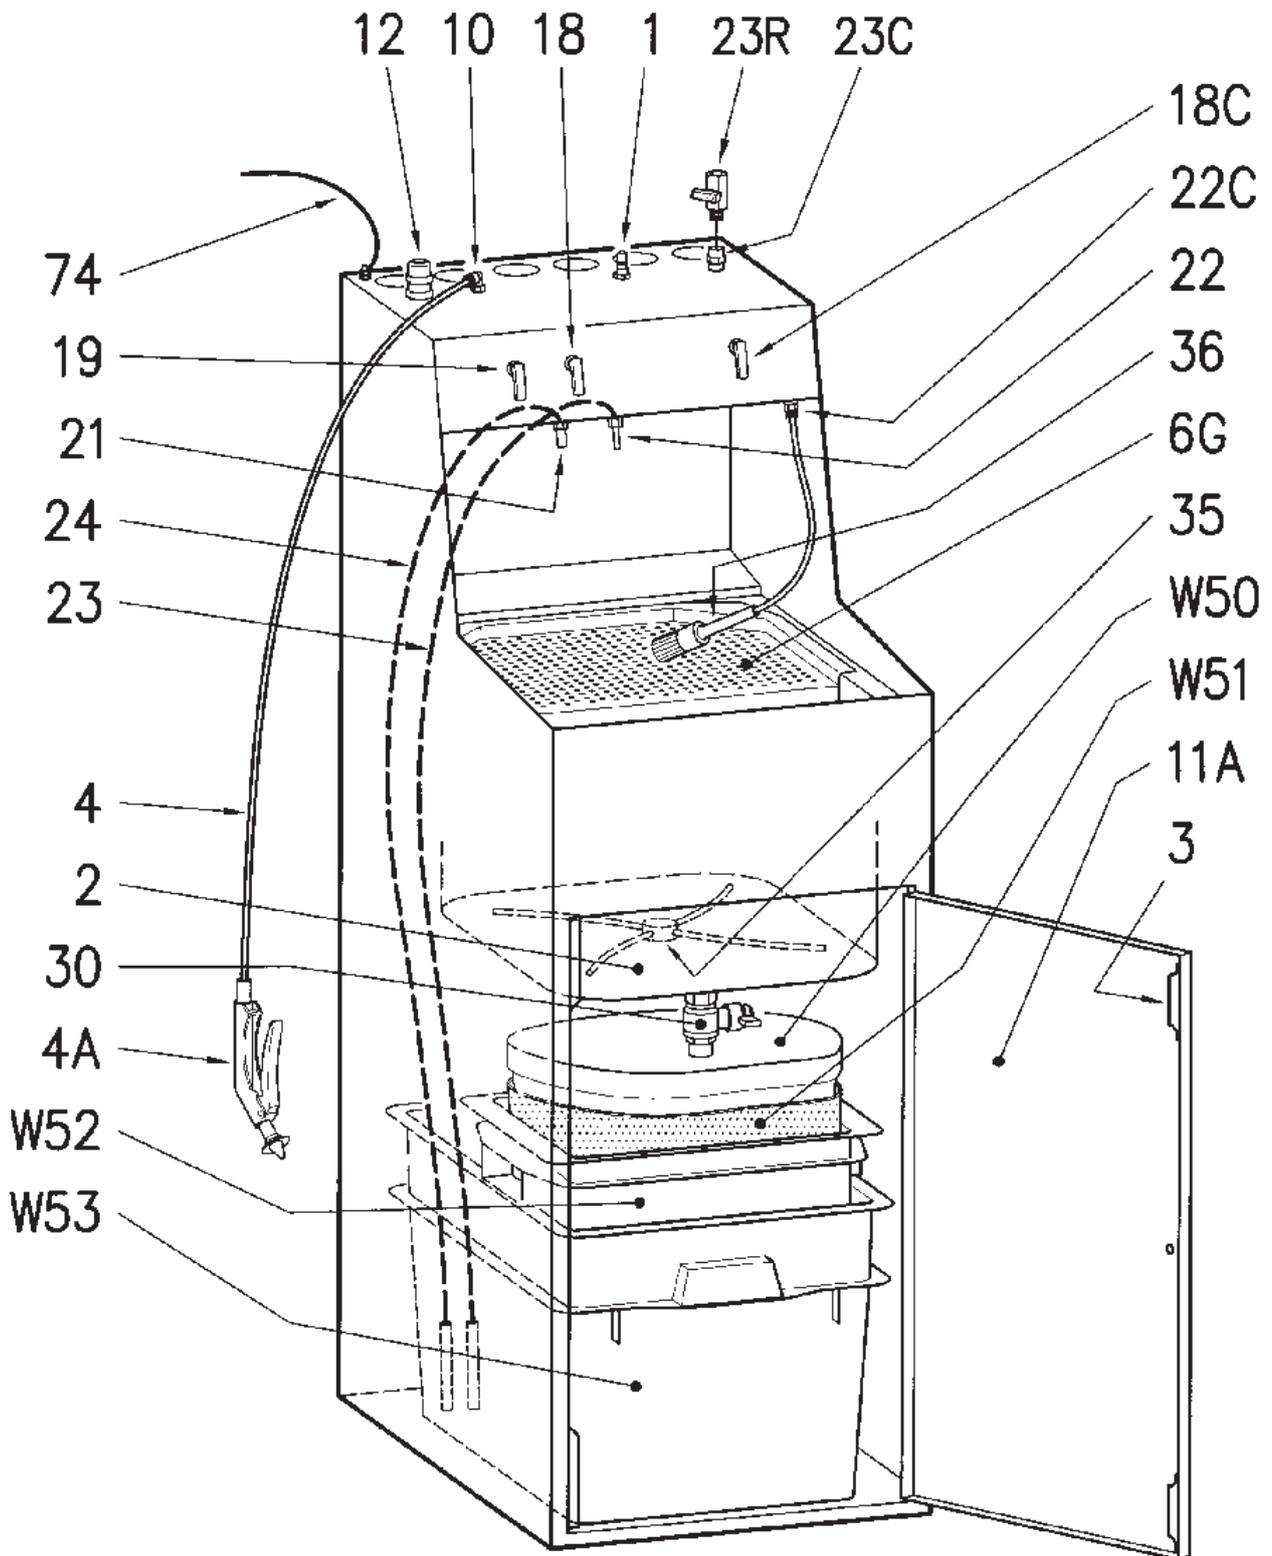

Figure 1
The **Spray-gun washer** basically consists of a steel container (see fig.1) housing:
- A stainless steel tank to collect the used water (**pos.2 fig.1**).
- A grill (**pos. 6G fig 1**) positioned on the stainless steel tank.
- A nebulizer (**pos.22 fig.1**).
- A small pump (**pos. 21 fig.1**).
- A brush connected to the water mains (**pos.36 fig.1**).
- An air distributor to mix the water with the flocculant powder (**pos. 35 fig.1**).
- A washing tank drain valve (**pos.30 fig.1**).
- A kit to separate the paint from the water (**pos. W50 - W51 - W52 - W53 - fig.1**).
- A hose (**pos.23 fig.1**) for the intake of water for the nebulizer.
- A hose (**pos.24 fig.1**) for the intake of water for the small pump.
- The clean water pump (**pos.19 fig.1**)
- The clean water nebulizer (**pos. 18 fig.1**),
- The clean water from the water supply of the company (**pos.18C fig.1**).
- The air regulator to mix the used water with the flocculant powder (**pos.1 fig.1**).
SPRAY-GUN WASHER DESCRIPTION (See figure 1):
- **It is forbidden** to rest objects over 10 kg weight on the **Spray-gun washer** grill (**pos. 6G fig. 1**).
- **It is forbidden** to connect and disconnect too often the air supply hose from the fitting (**pos. 12 fig. 1**).
- **It is forbidden** to use plastic drums (**pos.27 and 28 fig.1**).
- Before using the **Spray-gun washer** it is obligatory to connect the external earthing cable (**pos. 74 fig. 1**) to the workshop plant.
- Before using the **Spray-gun washer**, you **must** ensure that the supply and discharge hoses (**pos.23-24 fig.1**) are well inserted in their containers; be careful to avoid hose bending; make sure that they are not damaged.